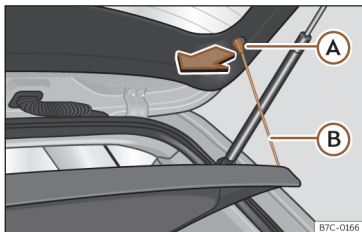

Fig. 183 In the boot: removing and installing the shelf.
- Detach the cord loops >>> **Fig. 183** (A) from their hooks (A).
- Attach the securing straps >>> **Fig. 183** (B) onto the rear lid.